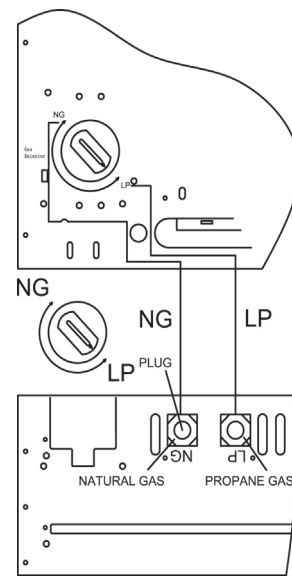

Figure 15
2. For propane gas, press in knob using a flat screwdriver with a blade the thickness of a quarter and turn knob counterclockwise  until the knob locks into the LP position, see Figure 15. Fuel selection device must be locked in the LP position. Do not operate heater between locked positions.